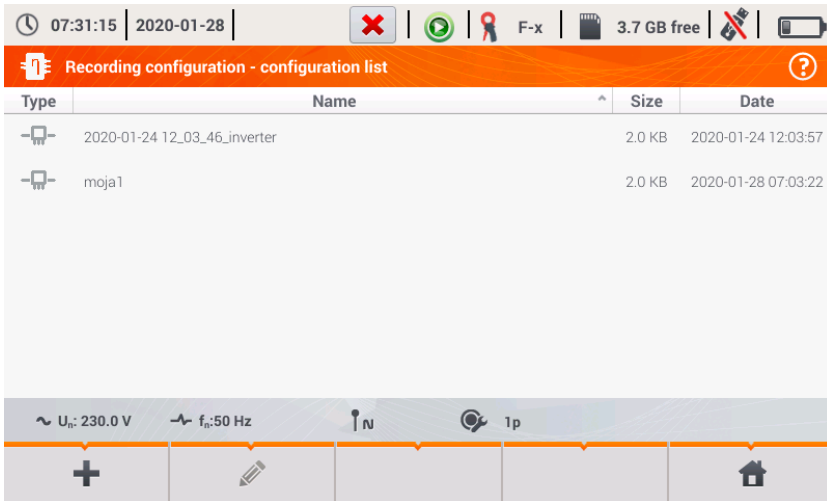

Fig. 46. Menu of recording configuration
- entering the list of saved configurations of inverter efficiency and creating a new configuration. Configurations are presented similarly to the measuring configurations, they have their own icon . Double-click on a selected configuration will open it automatically and entering the screen with inverter efficiency settings (**Fig. 46**). The button in the menu bar  is used for adding